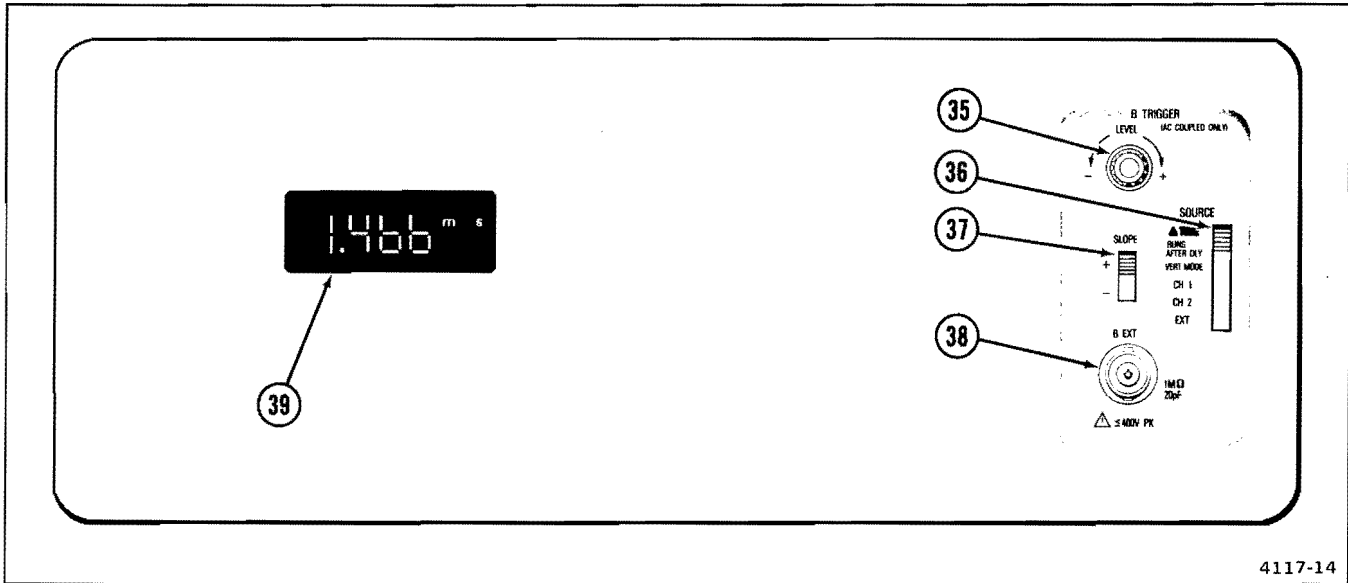

Figure 2-7. B TRIGGER controls, connector, and LCD readout.
Refer to Figure 2-7 for location of items 35 through 39.